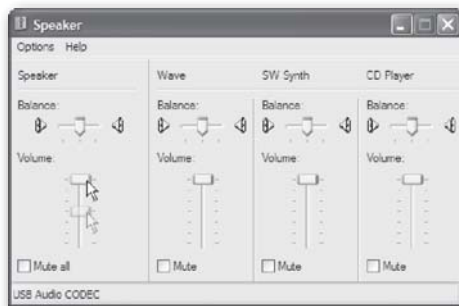

Figure 7
6. The volume can then be set by pressing the Volume button (figure 7).